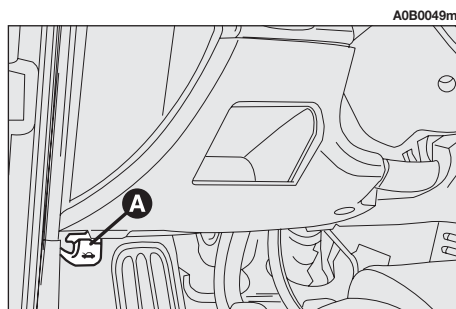

fig. 160
- Pull the lever (**A-fig. 160**) until the bonnet clicks open.